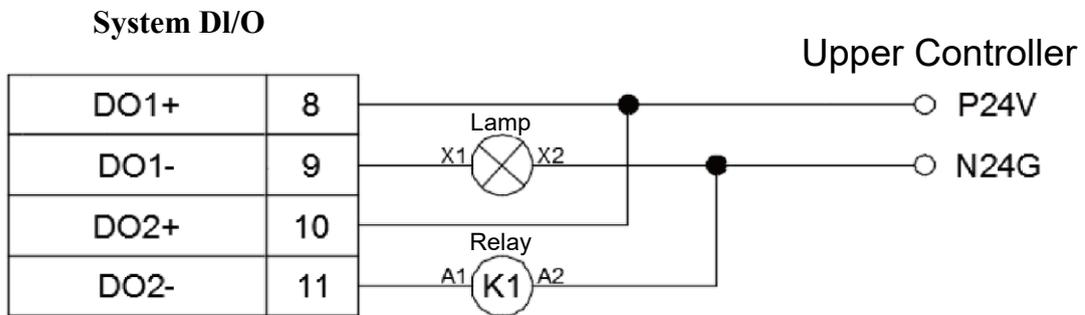

Figure 5.29 System DO upper controller voltage output PNP wiring
- Figure 5.29 shows the PNP wiring method.